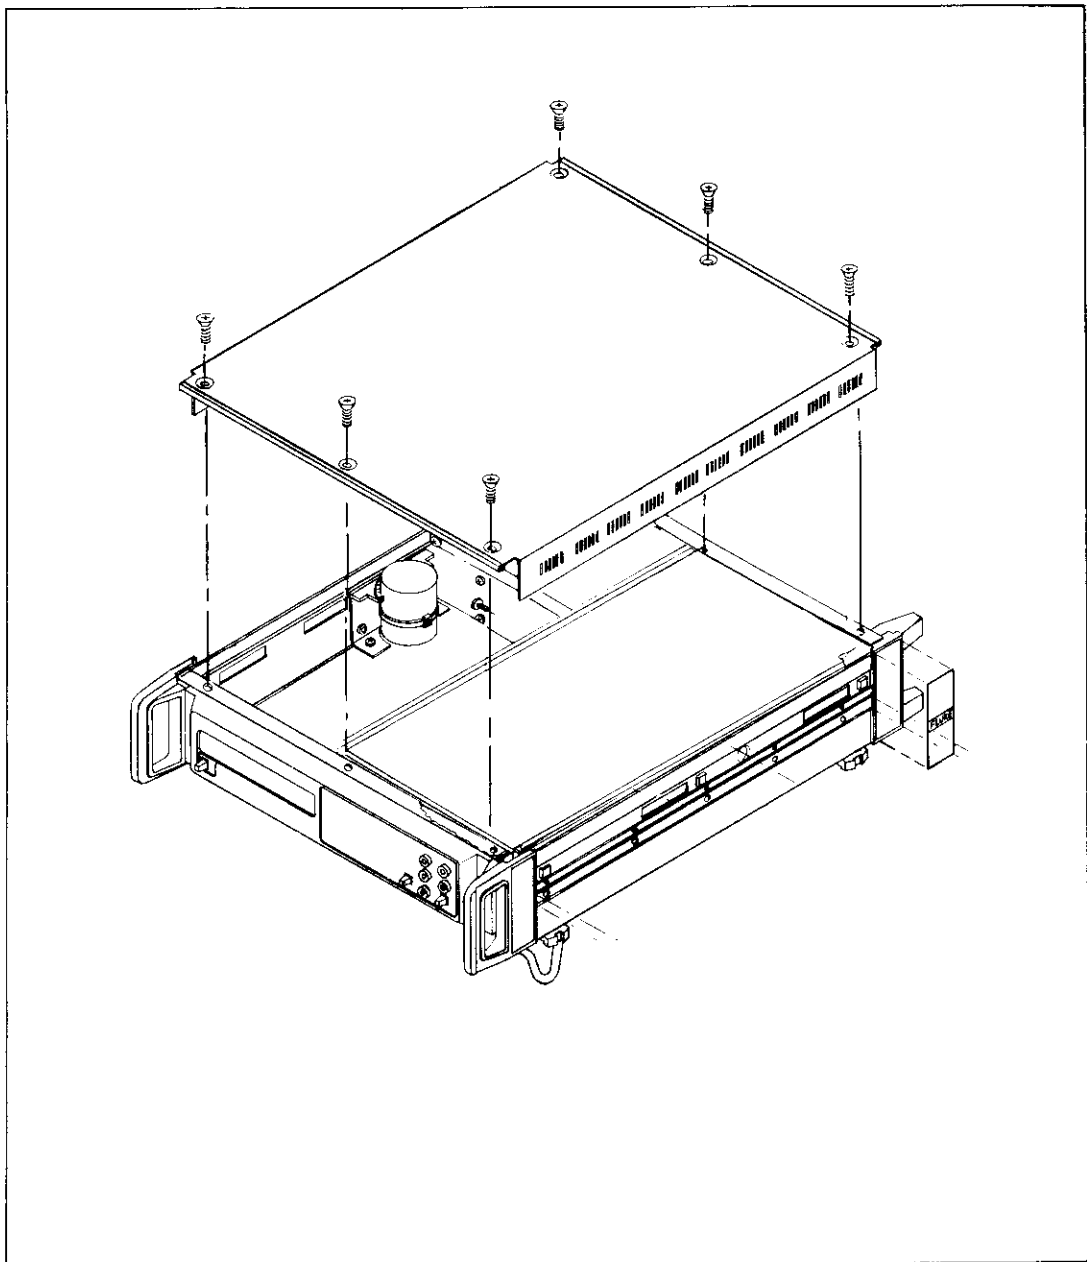

Figure 3-1. Maintenance and Routine Calibration Access
1. Remove the six screws from the top case covers as shown in Figure 3-1.